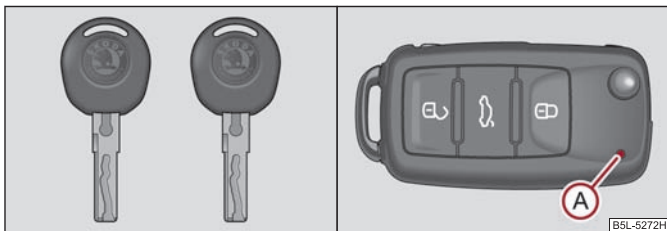
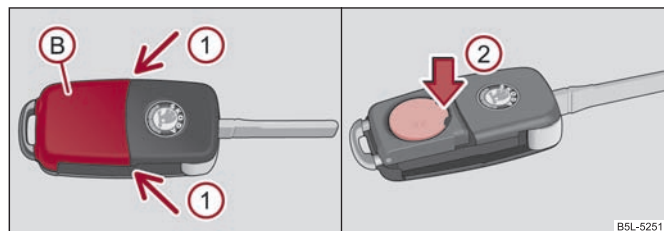

Fig. 22 Set of keys without remote control / set of keys with remote control key
Fig. 23 Disconnect key with radio remote control / change battery
Two keys are provided with the vehicle. Depending on the equipment, your vehicle can be equipped with keys without radio remote control or with radio remote control keys\* ⇒ fig. 22.
Each remote control key contains a battery which is housed in the cover **(B)** ⇒ fig. 23 of the transmitter housing. If the battery is discharged, the red indicator light **(A)** ⇒ fig. 22 does not light up after pressing a button on the remote control key. We recommend that you have the batteries of the key replaced by an authorised Škoda Service Partner. You should, however, proceed as follows if you wish to replace the battery yourself:
- Press off the battery cover with your thumb or using a flat screwdriver at the points of the arrows **(1)** ⇒ fig. 23.
- Remove the discharged battery from the key by pressing the battery downwards at the point of the arrow **(2)** ⇒ fig. 23.